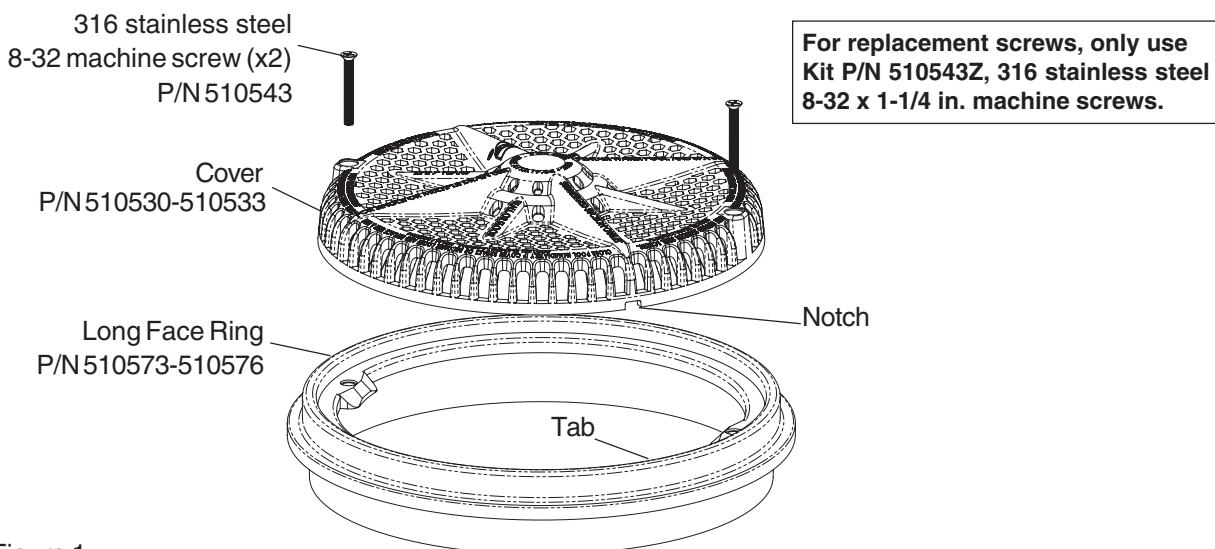

Figure 1
- Mount the drain cover on top of the face ring/suction outlet (see Figure 1).
- Install the two (2) 316 stainless steel 8-32 machine screws (provided) into the holes in the top of the cover. Using a No. 2 Philips head screwdriver, tighten each retaining screw to a **torque value of 10.00 (minimum) to 15.0 (maximum) in-lbs** to secure the cover. DO NOT OVER TIGHTEN THE SCREWS. DO NOT ASSEMBLE WITH POWER TOOLS.